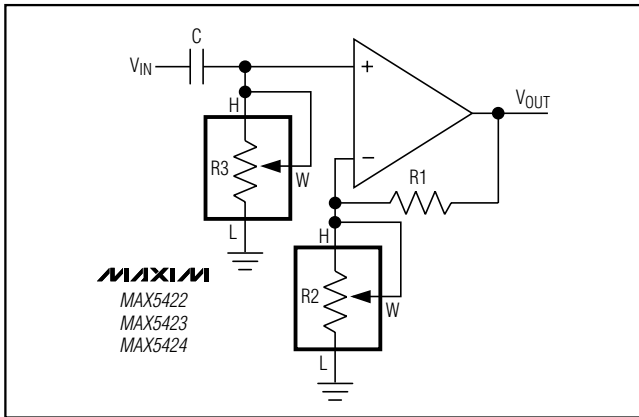

Figure 5. Programmable Filter
Figure 5 shows the configuration for a 1st-order programmable filter. The gain of the filter is adjusted by R2, and the cutoff frequency is adjusted by R3. Use the following equations to calculate the DC gain (G) and the 3dB cutoff frequency (fc):